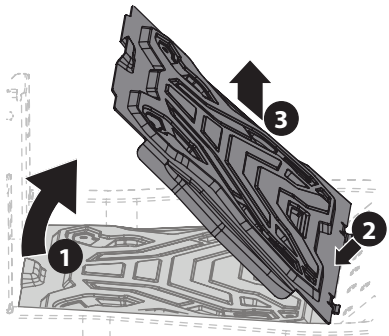

Figure 39
1. Carefully lift the rear of the floor panel (Figure 39).
2. Slide the floor panel rearward to free the front of the floor panel (Figure 39).
- Lift it off the tractor (Figure 39 on page 26).